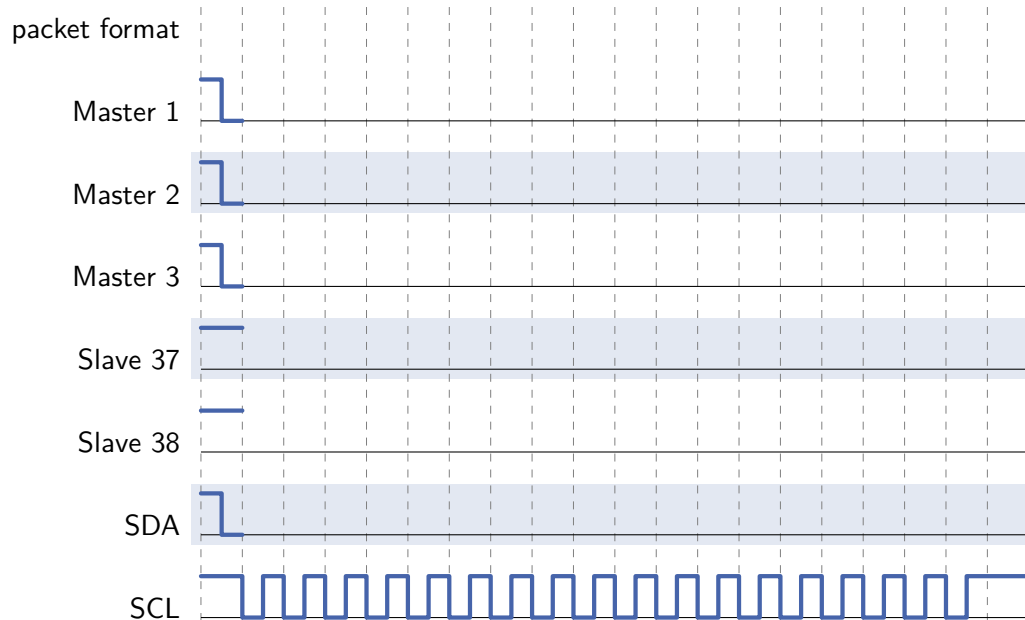

Figure 4.2: Signal sequence
- A) The addresses of the slaves and the data to be send to them is shown in the table 4.1. Complete the signal diagram in the figure 4.2.